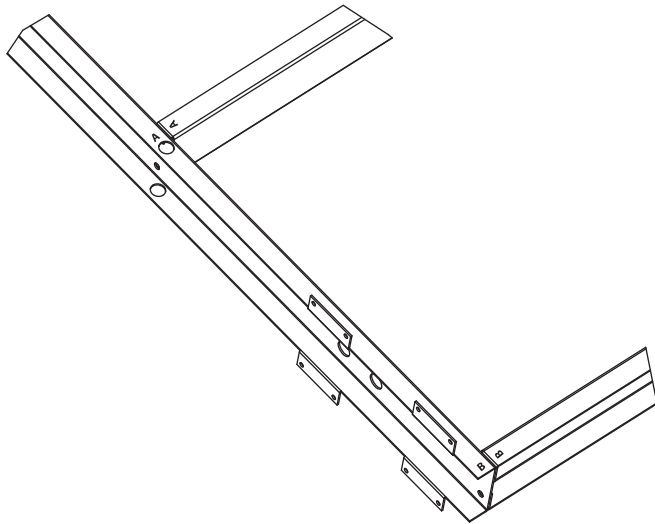

Figure 6. Letter Coding on Base Rail Parts
2. Assemble the base rails (provided with mixing box). All hardware required for assembly is included and the base rails are letter coded for ease of assembly (as shown in Figure 6).